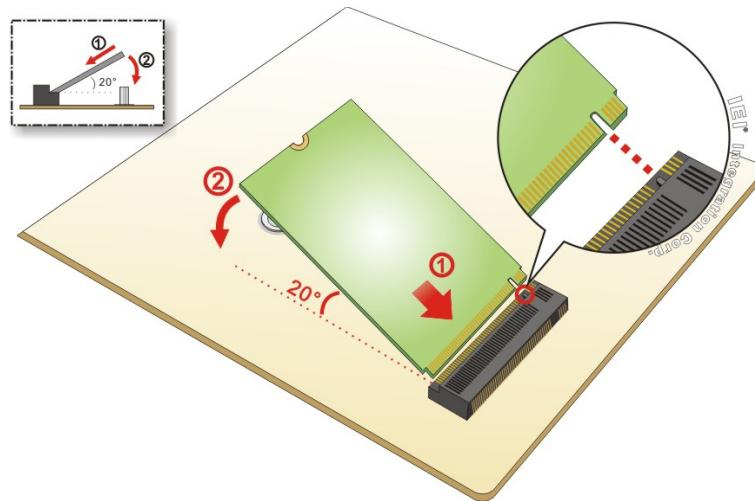

Figure 3-7: Inserting the WLAN Card into the Slot at an Angle
Step 4: Line up the notch on the module with the notch on the slot. Slide the WLAN card into the socket at an angle of about 20° (**Figure 3-7**).